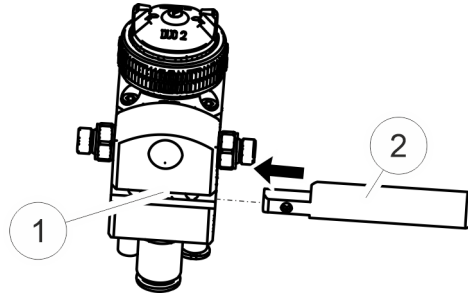

Fig. 4: Dovetail guide
1. Slide the retaining pin ( Fig. 4/2) into the dovetail guide ( Fig. 4/1) on the underside of the automatic spray gun.